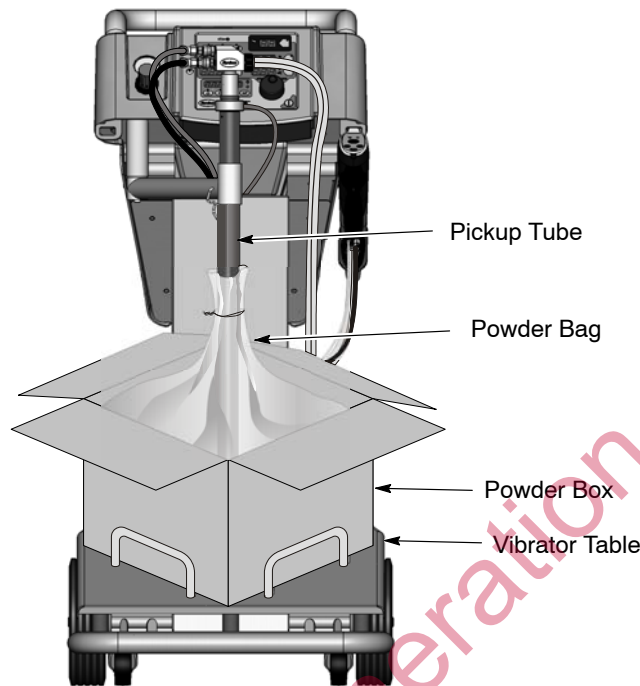

Figure 3-4 Powder Box Installation
2. See Figure 3-4. Place a box of powder on the vibrator table.